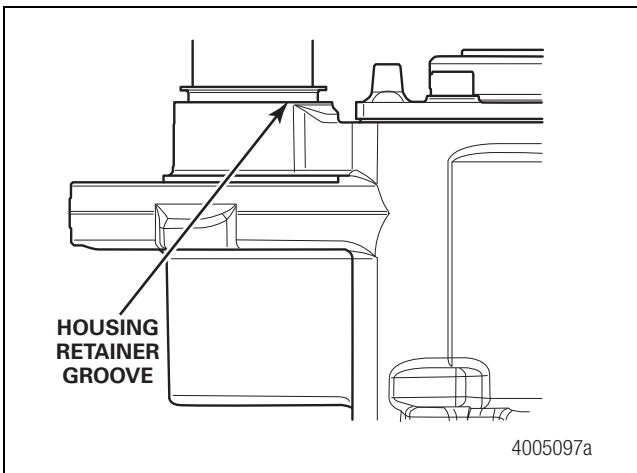
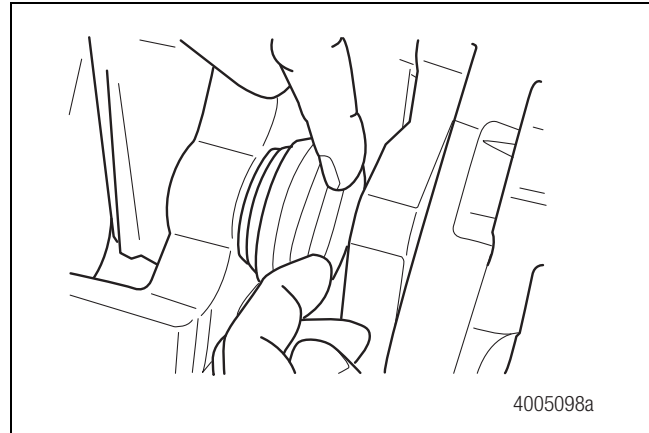

Figure 6.54
Figure 6.55
3. Install the slide pin boot beads into the housing retainer grooves. Figure 6.54 and Figure 6.55.